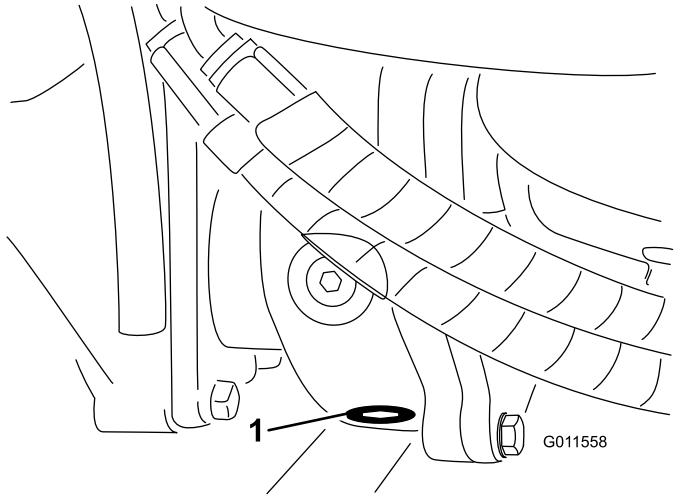

Figure 92
- Clean the area around the drain plug at the bottom of the gear box (Figure 92).